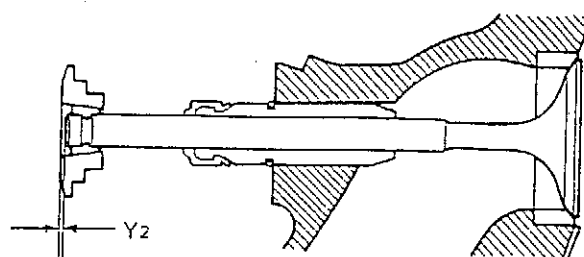

Fig.2
- Set the valve spring retainer and two cotter halves to the valve stem end, and measure the length Y_2 , as shown in the Fig.2.